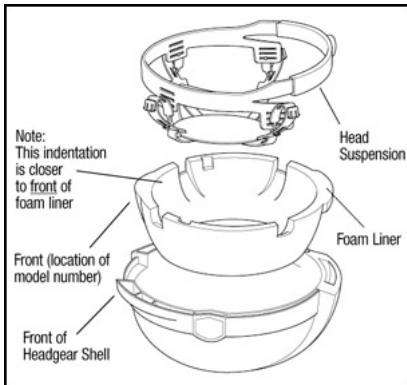

Fig. 8: Installing the Foam Liner
- With the foam liner oriented such that the model number is toward the front of the hardhat shell, insert the foam liner into the shell (Fig.8). If the liner is hard to install, you are probably inserting it backwards.